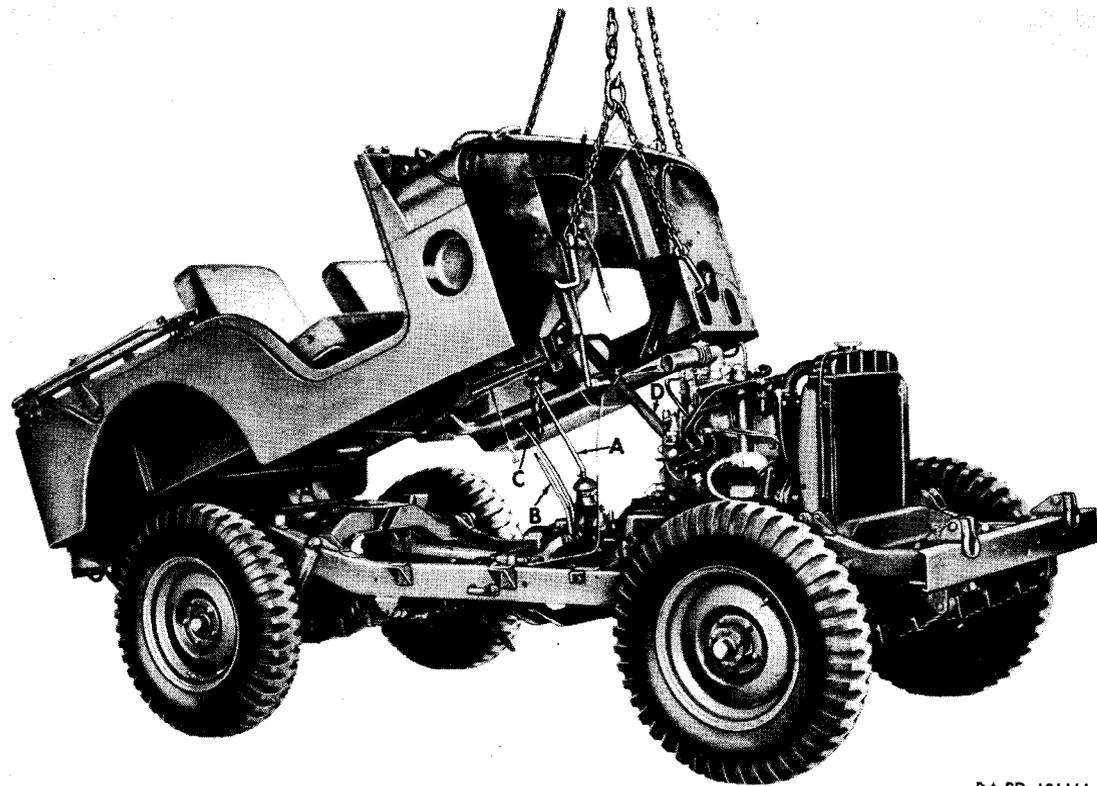
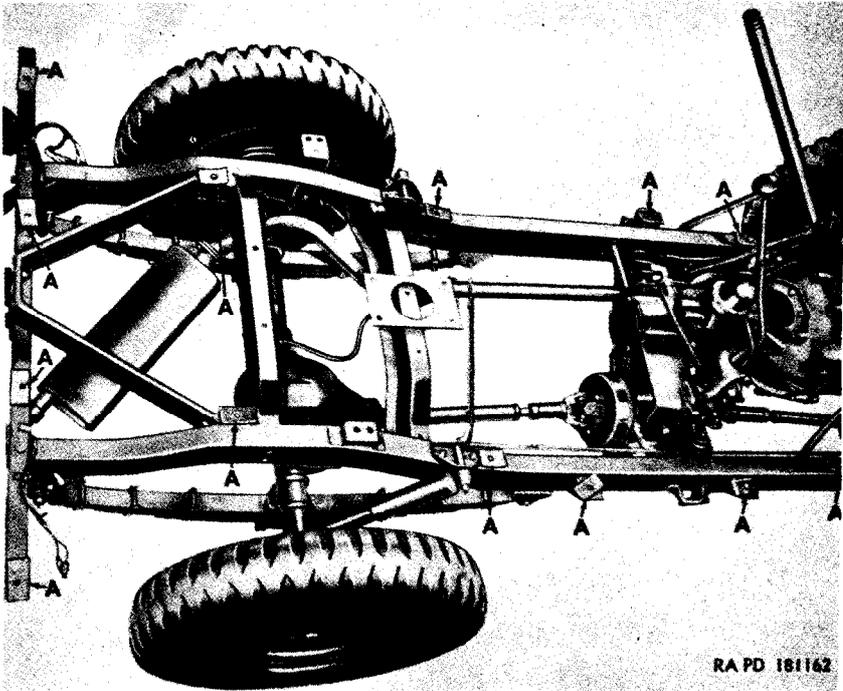

Figure 25. Front of body lifted from frame.
Figure 26. Body cushions and mounting bracket shims.
- (5) *Lift body from frame* (fig. 25). Attach a suitable sling to dash panel. Raise front end of body until opening in front floor panel clears transmission gearshift hand lever (A), transfer gearshift high and low range lever (B), front wheel drive lever (C), and steering gear jacket (D). Have two men lift rear of body while another pushes chassis out from under body. When chassis is clear of body, lower rear of body on floor or suitable support and then lower front end of body. Remove the 15 body mounting bracket shims and body mounting cushions (fig. 26).